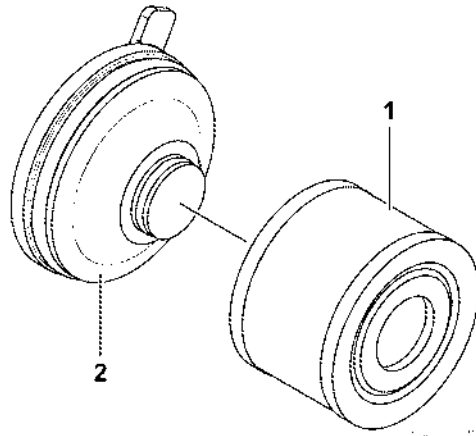

Figure 13
4. Remove the filter cartridge (1, Figure 13) from the cover assembly (2, Figure 13).